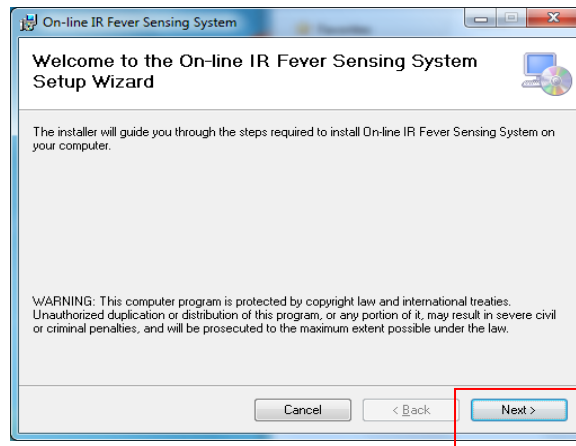

Fig. 3.3.1 System installation interface
- Go to system installation interface, shown in Fig. 3.3.1: